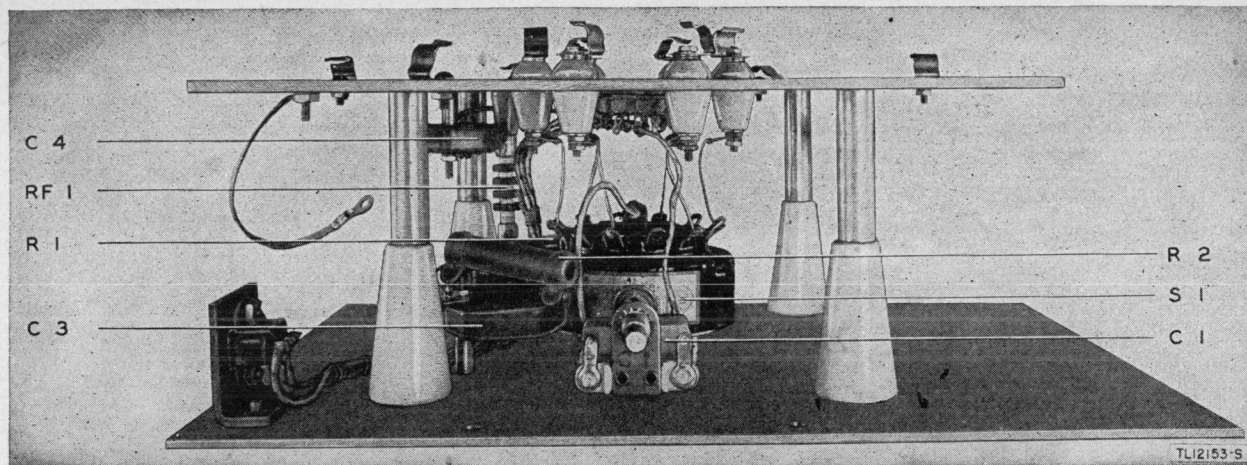
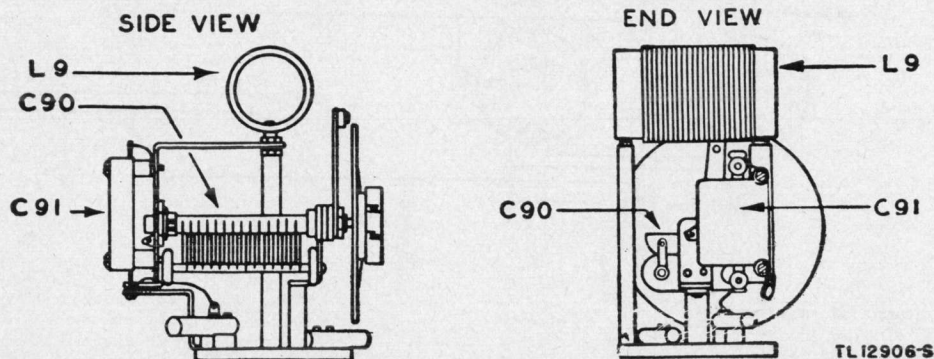
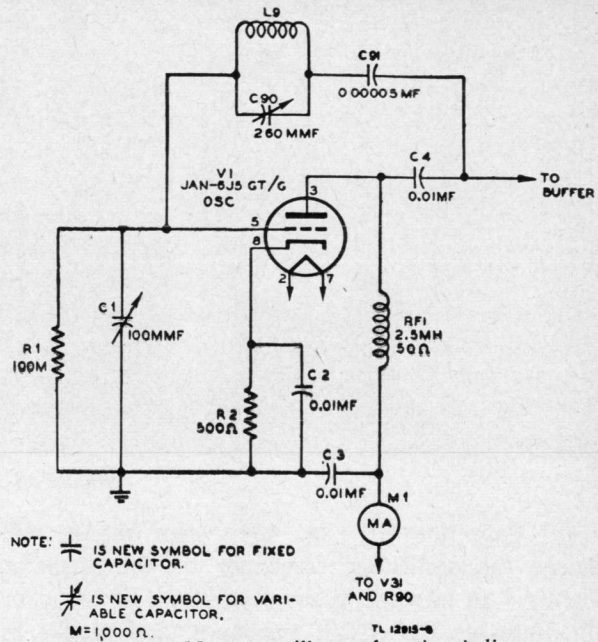

Figure 42. Oscillator unit.
Figure 43. Master oscillator assembly.
Figure 44. Master oscillator, functional diagram.
(2) Capacitor C1 (fig. 42), when varied, will change the oscillating frequency of the oscillator slightly. An increase in the capacitance of capacitor C1 decreases the circuit reactance, and results in increased crystal current and a slight reduction in the crystal frequency. Capacitor C1 is set to the correct value at the factory for crystals in the range from 2 to 4 mc. The bias for the oscillator is obtained by means of grid resistor R1 and cathode resistor R2, which is bypassed by capacitor C2.
(3) To sustain oscillation, the plate circuit must have a capacitive reactance. This condition is attained by means of plate inductor RF1 whose resonant frequency, as determined by the circuit capacitance in parallel with it, is below the crystal frequency. Inductor RF1 offers a high r-f impedance, and r-f voltages are developed across the inductor. Capacitor C3 is an r-f bypass capacitor which places the bottom end of inductor RF1 at r-f ground potential. The r-f voltage developed across inductor RF1 is applied to the grid circuit of the buffer stage through capacitor C4. The crystal is connected on the grid side of capacitor C4 to prevent the d-c oscillator plate voltage from being applied across the crystal.
(4) To maintain frequency stability and prevent damage to the crystal, the plate voltage is adjusted to 150 volts and maintained constant by voltage regulator Tube JAN-OD3/VR150 and resistor R90. A d-c path can be traced from the plate supply through plate current meter M1 and inductor RF1 to the plate of tube V1 and back through cathode resistor R2 to ground, completing the circuit. Filament transformer, T1 provides filament power for oscillator tube V1.
b. M-O CONTROLLED. For emergency operation, where crystals are not available, a parallel tuned circuit assembly consisting of capacitor C90 and inductor L9 together with a series capacitor C91 may be used. (See fig. 43.) The tuned circuit which is the same as the equivalent circuit of a crystal, replaces the crystal to control the frequency and phase of the r-f energy fed back from the oscillator plate circuit to grid circuit. (See fig. 44). The assembly plugs in to crystal position 6 and the selector switch S1 is set for that position. The assembly can be tuned between 2 and 4 mc by means of the 0 to 100 dial which operates capacitor C90. A calibration curve for the settings to cover the frequency range is shown in figure 71.